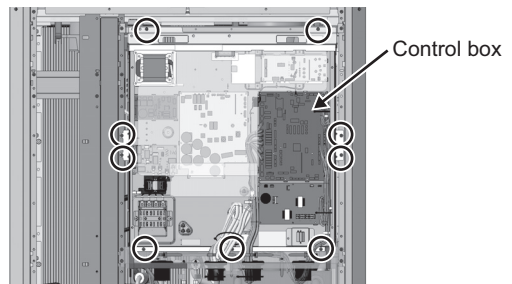

Fig. 79
(3) Remove the control box. (Nine screws: Fig. 79)